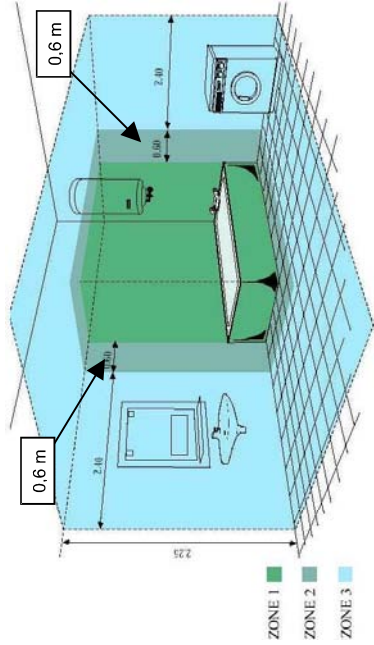

Figure 1: Classification of the Bathroom Zones
- The electronic thermostat is a class I or II apparatus and it is protected from water contact. In the bathroom it may be mounted in the zone 3 (see figure 1): making it impossible to be touched by person using the bath or shower.